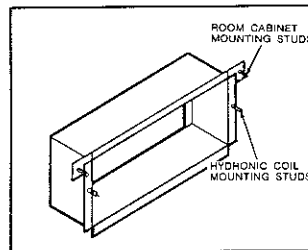
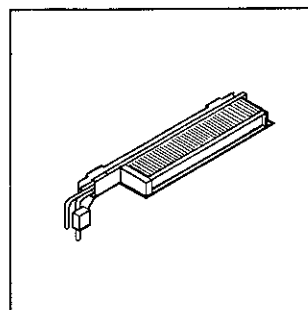
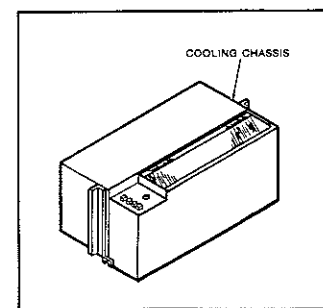

FIGURE 4 WALL BOX
FIGURE 6 HYDRONIC COIL
FIGURE 7 CHASSIS
1. Install wall box flush with outside wall. Mounting flange of wall box must never be recessed into finished interior wall. Do not remove temporary weather panel while installing wall box. (See figure 4).
8. If a hydronic coil is specified (See Figure 6), install on wall box mounting studs. (See Figure 4.) Hydronic coil has a metal tab that fits over top flange of wall box.
9. Install chassis (See Figure 7) on same mounting studs (See Figure 4) as hydronic coil and tighten nuts on studs.